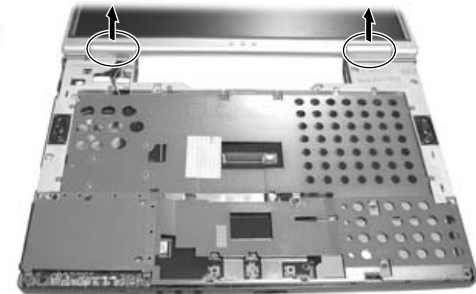

Figure 2-21 Remove the hinge covers
5. Remove the two hinge covers. (Figure 2-21)